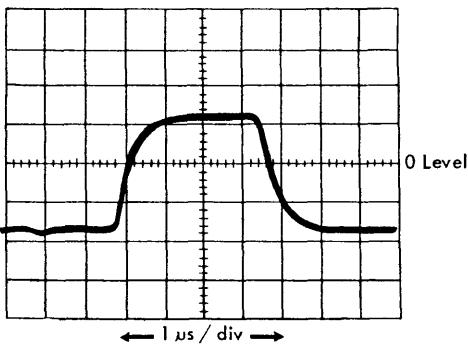

Figure 6. Process Unit Clock  $\phi B$  (1Xb)  $3.5 + .25, -0 \mu s$
$\phi B$  pluggable unit 1W2 (1.01.01) (See Figure 6):
2. Observe  $\phi B$  pulses at 1Xb (1.01.01) (See Figure 6).